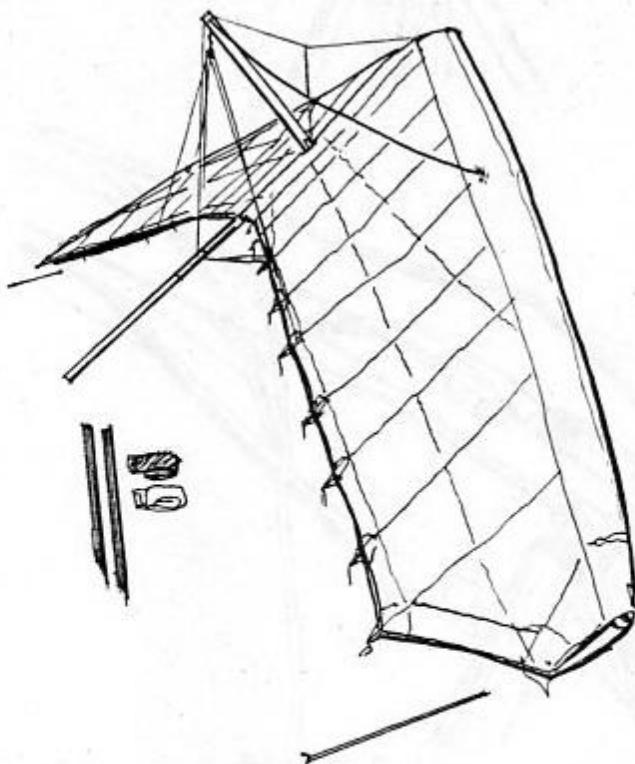

Fig. 3.2.18.
10. Spread the wings all the way and check all wires for twisted thimbles or tangs (Fig. 3.2.18).